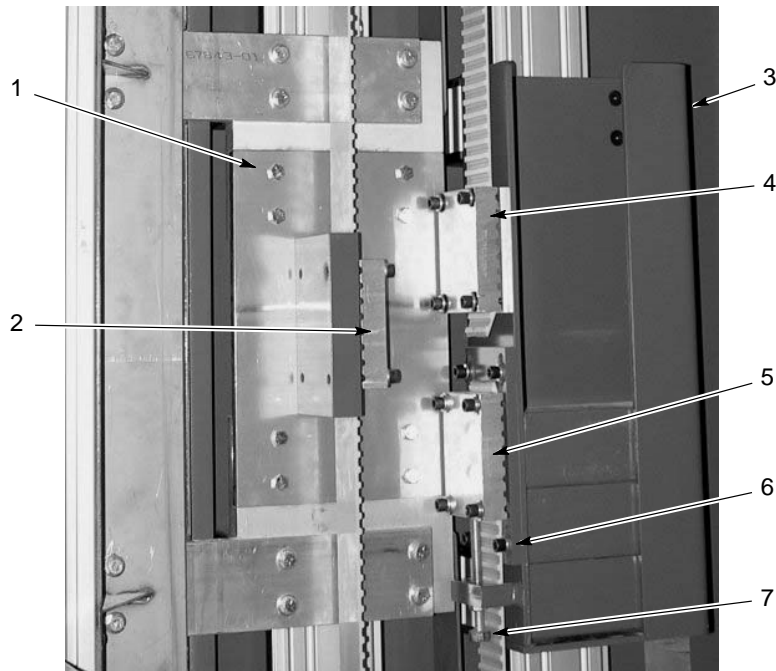
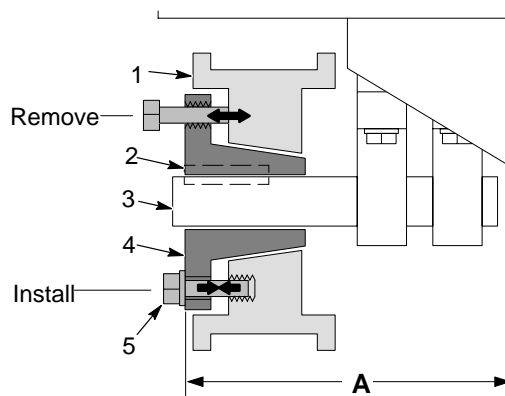
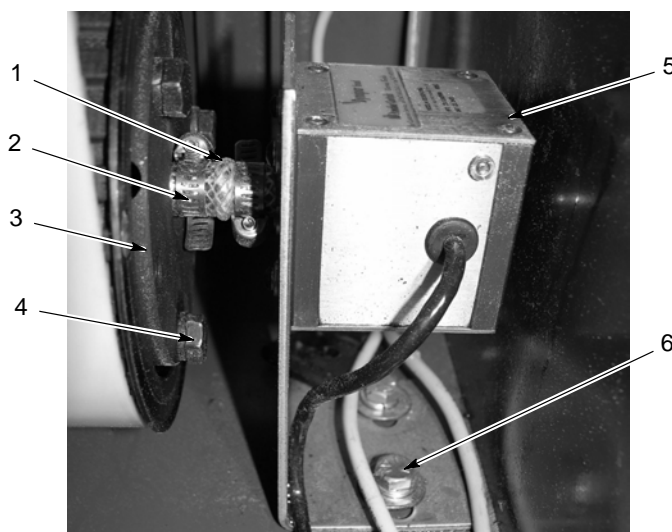

Figure 6 Belt Replacement - Clamp and Tension Bolt Locations.
Figure 7 Idler Pulley Replacement (Side View Cutaway)
Figure 12 Gearmotor Replacement - Encoder and Pulley Removal
5. See Figure 6. Make reference marks on both the slide block (6) and counterweight carriage. These marks will be aligned later to retension the belt.
6. Loosen the four slide block (6) screws, then back out the tension screw (7) to remove the tension from the belt.
8. Mark the belt, then remove the top belt end clamp (4). Remove the belt from the pulley.
9. See Figure 7. Place a straight edge across the surface of the pulley bushing and measure distance **A**, from the back wall of the frame to the outside surface of the pulley bushing.
10. Remove the bolts and lockwashers (5) from the bushing (4).
4. See Figure 6. Make reference marks on both the slide block (6) and counterweight carriage. These marks will be used to retension the belt.
5. See Figure 6. Loosen the four slide block (6) screws, then back out the the tension screw (7) so that you can remove the pulley.
6. Mark the belt, then remove the bottom end clamp (5). Remove the belt from under the gearmotor pulley.
7. See Figure 12. Remove the bolts (6) securing the encoder bracket to the reciprocator base.
8. Remove the clamps (2) securing the flexible coupling (1) to the encoder and the gearmotor output drive shaft. Remove the coupling, clamps, and encoder and bracket (5).